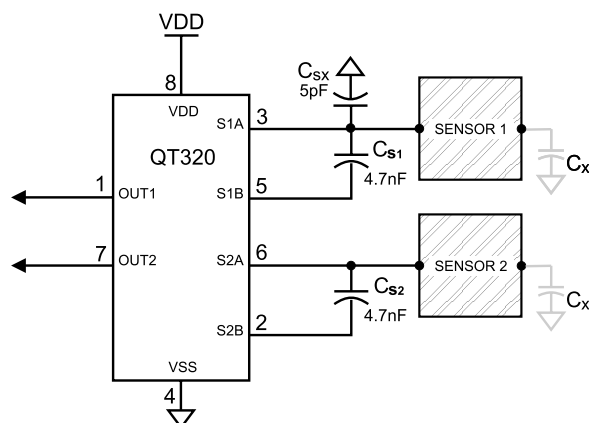
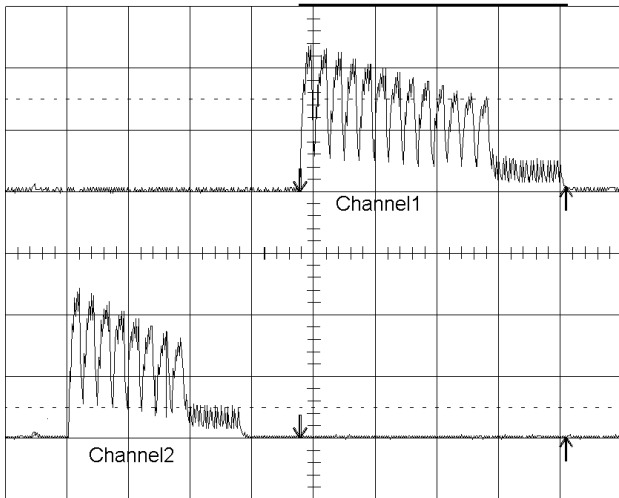

Figure 1-6 Circuit with C_{sx} gain equalization capacitor
Figure 1-7 Burst lengths without Csx installed
The acquisition process occurs in bursts (Figure 1-7) of variable length, in accordance with the single-slope CDC method. The burst length depends on the values of Cs and Cx. Longer burst lengths result in higher gains and more sensitivity for a given threshold setting, but consume more average power and are slower.
2. Connect a small capacitor (~5pF) between S1a or S1b (either Channel 1 pin) and circuit ground (Csx in Figure 1-6), this will increase the load capacitance of Channel 1, thus balancing the sensitivity of the two channels (see Figures 1-7, 1-8).
Since the actual burst length is proportional to sensitivity, you can use an oscilloscope to balance the two channels with more accuracy than by empirical methods (See Figures 1-7 and 1-8). Connect one scope probe to Channel 1 and the other to Channel 2, via large resistors (750K ohms) to avoid disturbing the measurement too much, or, use a low-C FET probe. The Csx balance capacitor should be adjusted so that the burst lengths of Channels 1 and 2 look nearly the same.